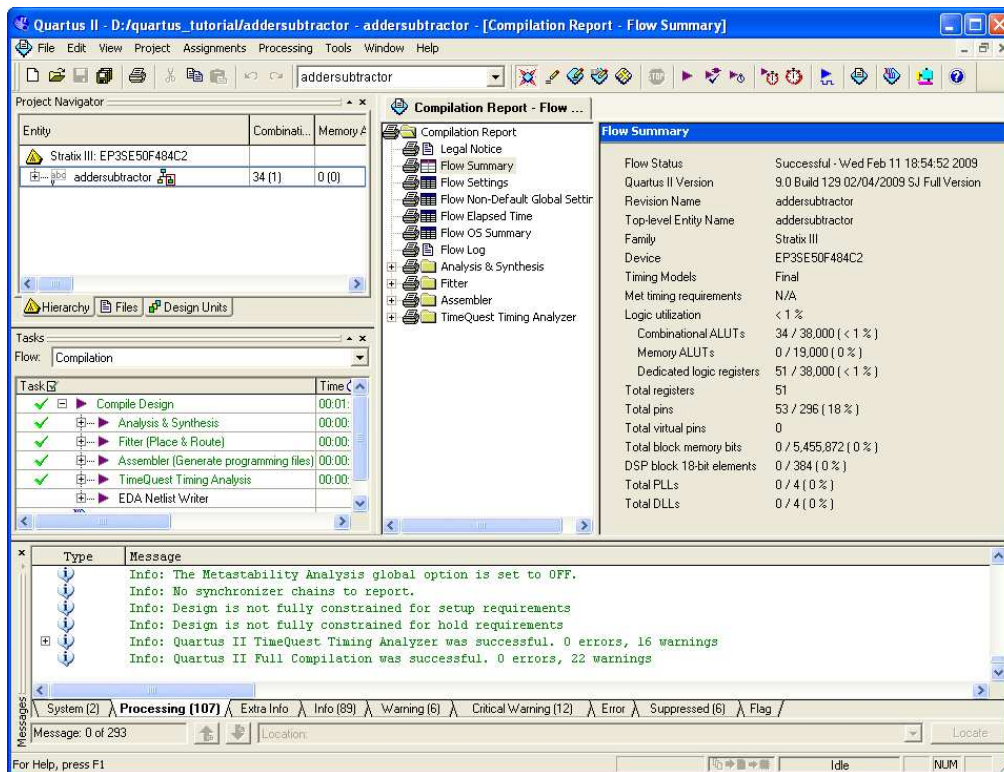
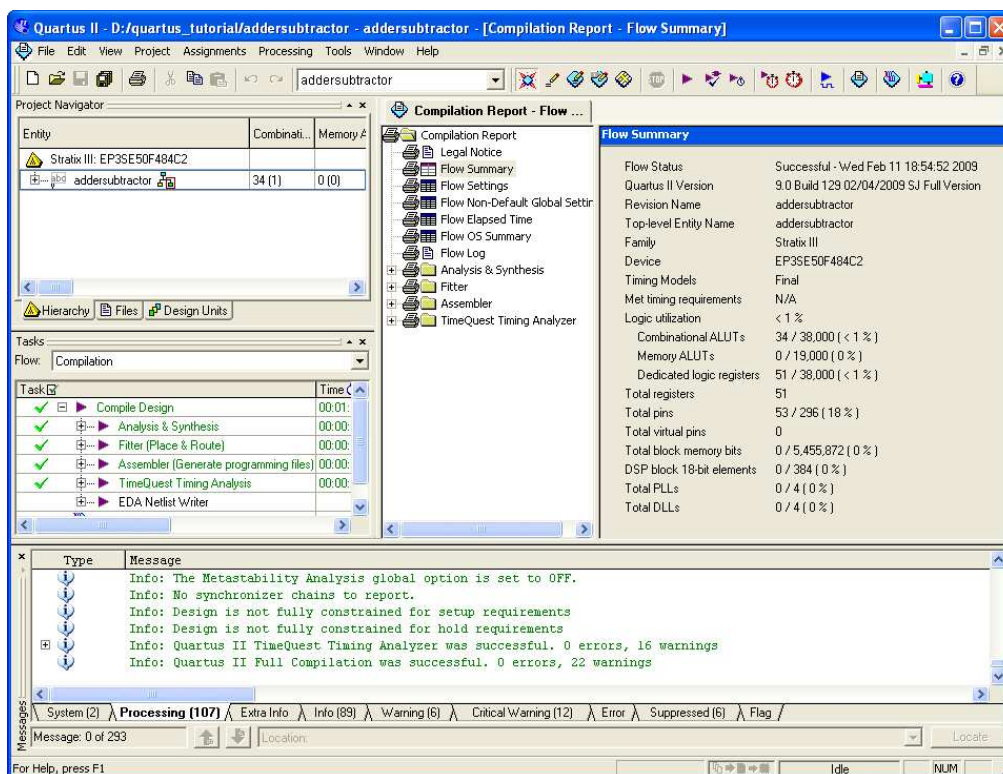

Figure 19: Display after a successful compilation.
Figure 40: The main Quartus® II display.
1. Run the Compiler by selecting **Processing > Start Compilation**, or by using the toolbar icon . As the compilation moves through various stages, its progress is reported in the Tasks window on the left side. This window also provides a comprehensive interface to edit, start and monitor different stages of the compilation. Successful (or unsuccessful) compilation is indicated in a pop-up box. Acknowledge it by clicking OK. This leads to the Quartus® II display in Figure 19, in which we have expanded the Entity hierarchy in the top left corner to show all entities in the *addersubtractor* design. In the message window, located at the bottom of the display, various messages are shown. In case of errors, there will be appropriate messages given.
The Quartus® II display contains several utility windows which can be positioned in various places on the screen, changed in size, or closed. In Figure 19, which is reproduced in Figure 40, there are five windows.
1. To see the usefulness of this window, open the previously compiled project *quartus_tutorial\addersubtractor.qpf* to get a window similar to Figure 40.